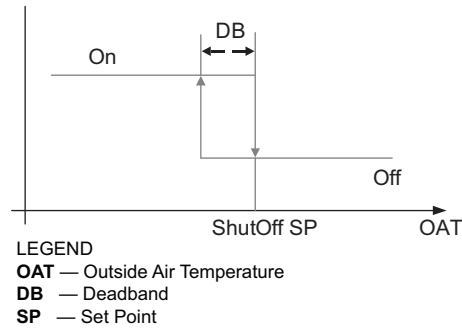

Fig. 69 – Hysteresis Settings
Hysteresis setting (DB) defaults to 2°F (–17°C). See Fig. 69.